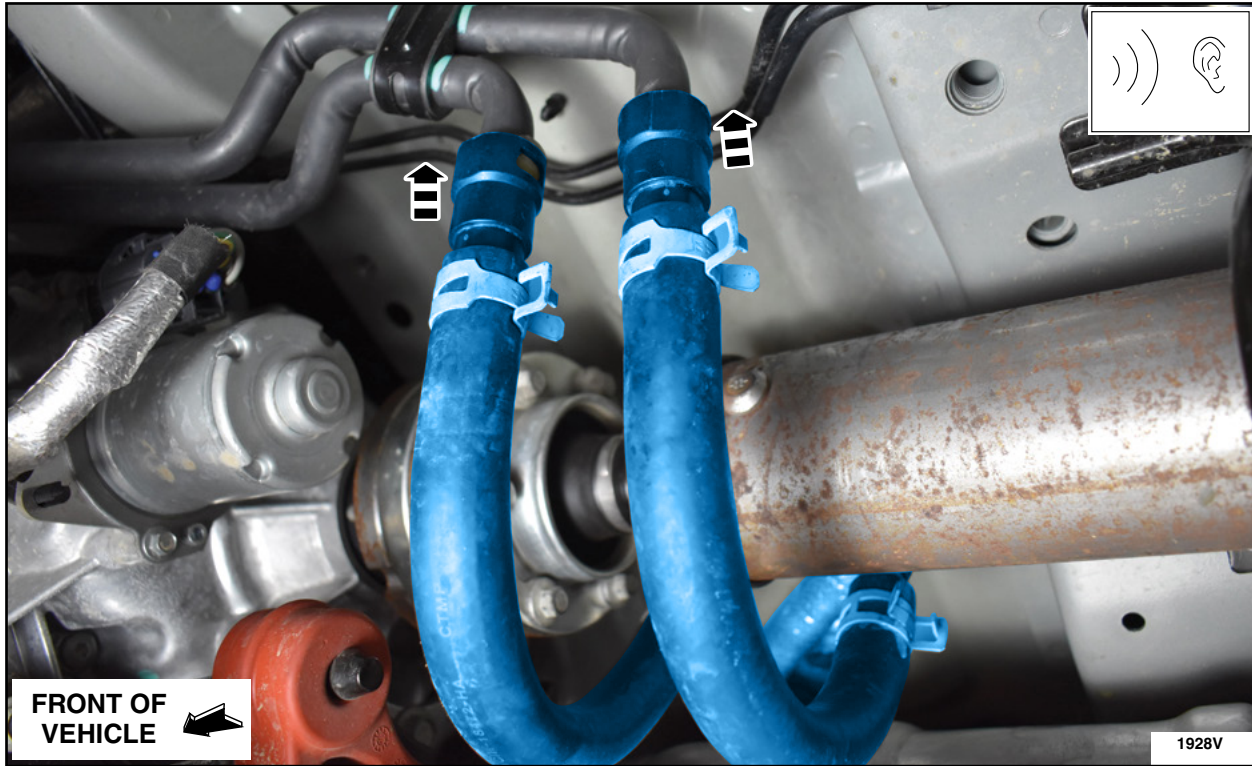

FIGURE 24
25. Connect the short rear heater coolant line to the long rear heater coolant line. A audible click will be heard. See Figure 24.